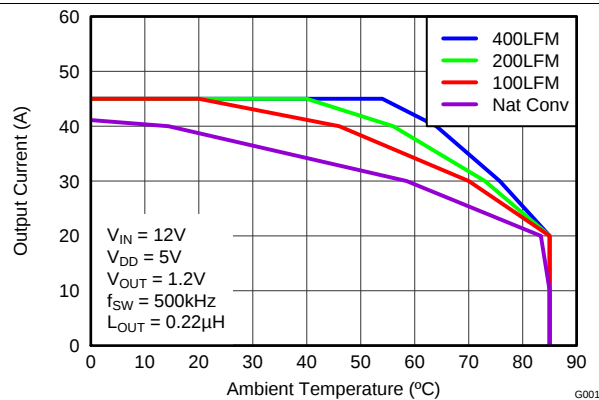

Figure 4. Safe Operating Area (SOA)– PCB Horizontal Mount⁽¹⁾
The SOA curves in the CSD95373AQ5M data sheet give engineers guidance on the temperature boundaries within an operating system by incorporating the thermal resistance and system power loss. Figure 4 and Figure 5 outline the temperature and airflow conditions required for a given load current. The area under the curve dictates the safe operating area. All the curves are based on measurements made on a PCB design with dimensions of 4" (W) $\times$ 3.5" (L) $\times$ 0.062" (T) and 6 copper layers of 1 oz. copper thickness.